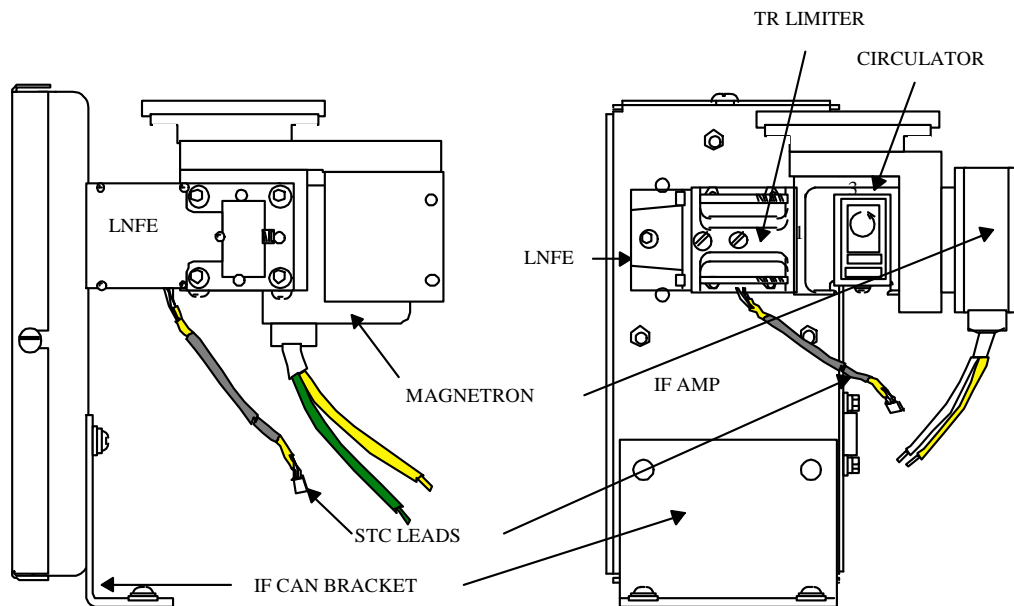

Figure: 4-6 X-Band RF Assembly Layout
- (1) Locate and disconnect the D-Connector attached to the IF Assembly.
- (2) Disconnect the connector attached to the TR-Limiter. On some units it maybe necessary to cut the two STC leads at the TR Limiter, Figure: 4-6.
- (3) Remove plug attached to J5 of the Controller PCB and remove cable from cable harness